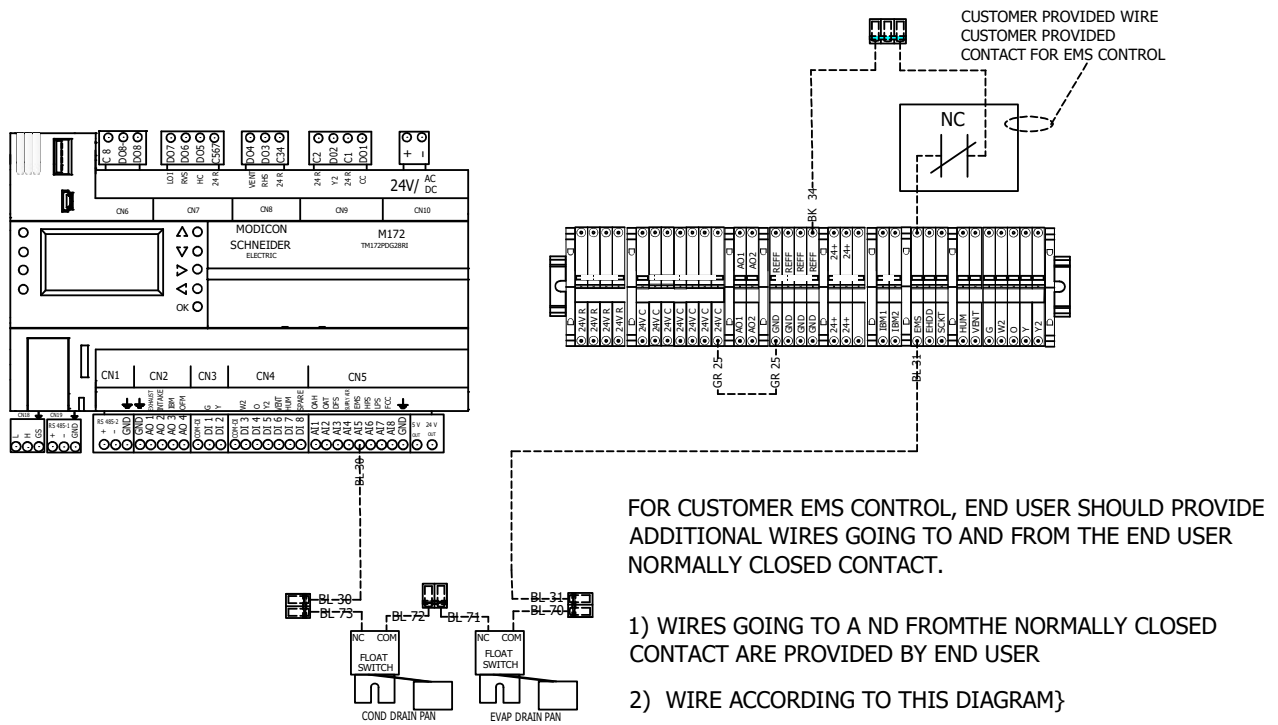

Figure 7. EMS Wiring Detail
- C. The electrical control compartment is located behind the front door at the lower right hand corner of the unit. The electrical schematic for the heat pump or air conditioner is contained in a pocket on the inside of the middle front panel door. Figure 6 shows typical control centers for the Scholar 2.0 heat pump and air conditioner. Figures 7 and 8 show typical single and three phase wiring diagrams for the Scholar 2.0 heat pump and air conditioner.
The control of the GreenCube ERV and Ventilation relay (VR) are 24 volt inputs to the PLC. If 120 V. of 240 inputs are required, additional relays must be installed in the factory or in the field. The EMS is tied to the float switch and will shut the system down if the switch is closed (indicating the drain pan water reached its limit). For end user control of the EMS, refer to Figure 7.